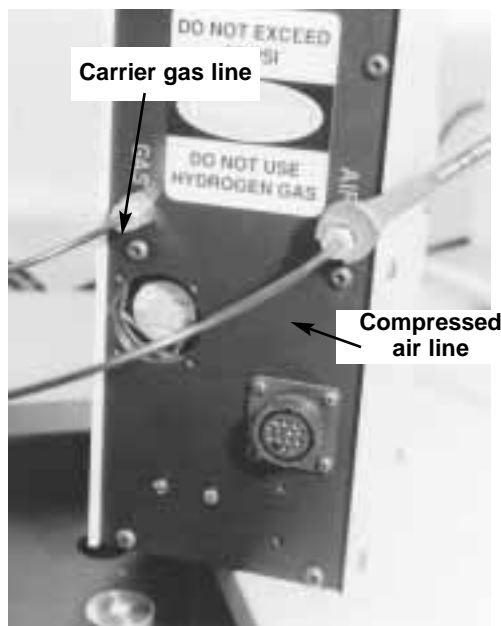

Fig 3.16 1/8" PTFE tubing is used for the carrier gas and compressed air lines on the S.P.T.D. unit.
16. As before, cut an appropriate length of the 1/8" PTFE tubing supplied with the S.P.T.D. to connect from the compressed air source to the fitting labeled “AIR”. Be sure the tubing is fully seated in the fittings and then tighten the fittings finger tight. Using a 7/16" wrench tighten the fittings 3/4 turns further. See **Figure 3.16**.